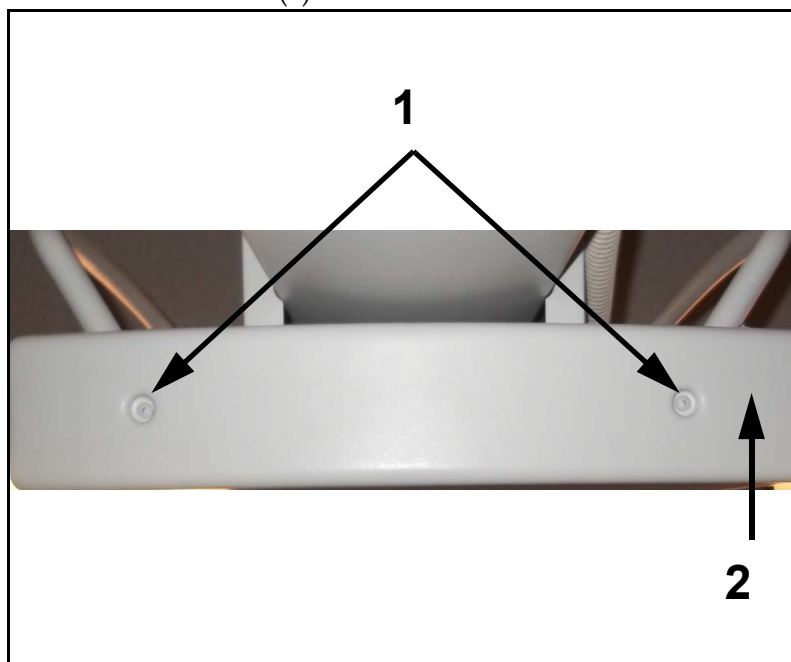

Figure E-2. Bottom Cover Removal
- 2** Unscrew the bottom cover screws (1 in Figure E-2) and remove bottom cover (2).